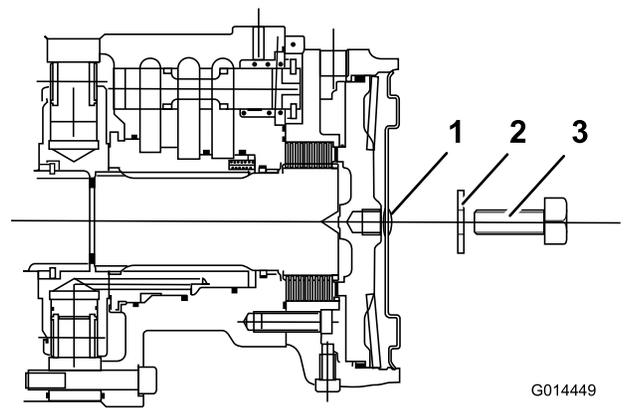

Figure 62
6. Identify the left hand front wheel motor disc brake assembly and repeat the previous procedure (Figure 62).